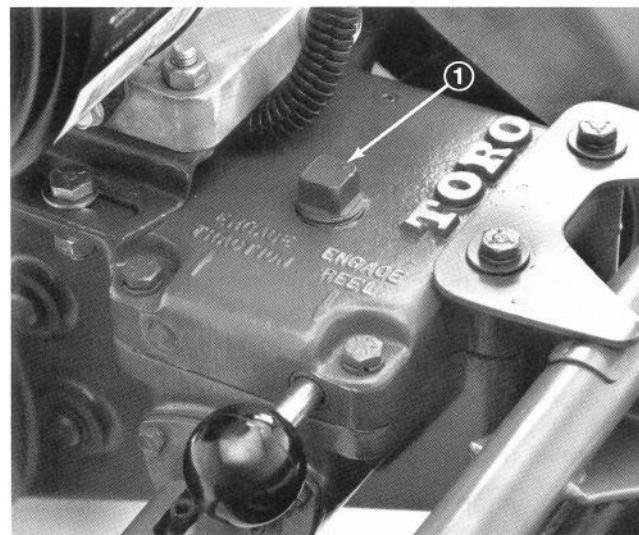

Figure 6
2.. If level is correct, replace plug. If level is too low, remove plug in top of transmission and add a good grade of SAE 90 gear oil (Fig. 6). Replace both plugs.